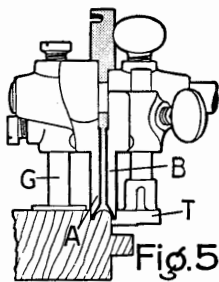

Fig. 5
**Fig. 5—BEADING MATCHED BOARDS**—Attach Beading Gauge (T) to left of Sliding Section (B). This provides a guide above the tongue. Gauge (G) regulates depth of cut. Fence (D) and the Spurs are not used.